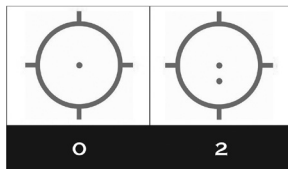

Fig. 1 XPS3 reticle options
The XPS3 is offered with one of the following (2) reticle options (see fig. 1):
- 2- 68 minute ring with vertical and horizontal stadia and (2) 1 MOA aiming dots